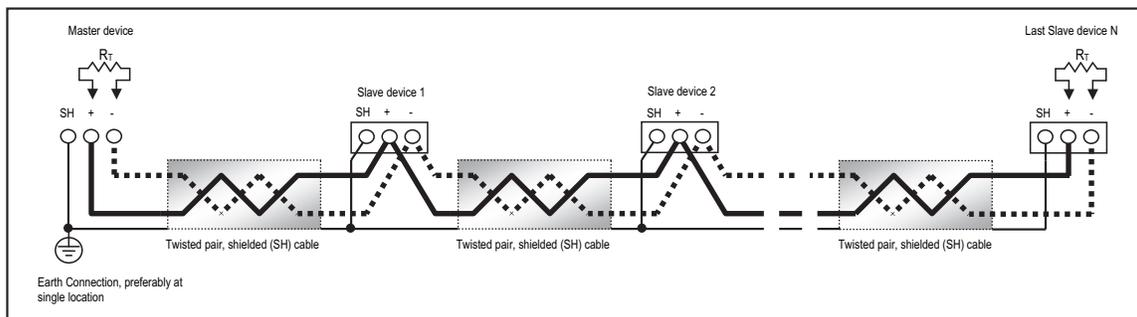

Figure 5.5: RS485 Daisy Chain Connection
- Connect shield to RS485 Master and individual devices as shown in Figure 5.5. You may also connect the shield to earth-ground at one point.
- Termination Resistors (RT) may be needed on both ends for longer length transmission lines. However, since the meter has some level of termination internally, Termination Resistors may not be needed. When they are used, the value of the Termination Resistors is determined by the electrical parameters of the cable.
Figure 5.5 shows a representation of an RS485 Daisy Chain connection. Refer to Section 5.1.2.1 for details on RS485 connection for the Unicom 2500.